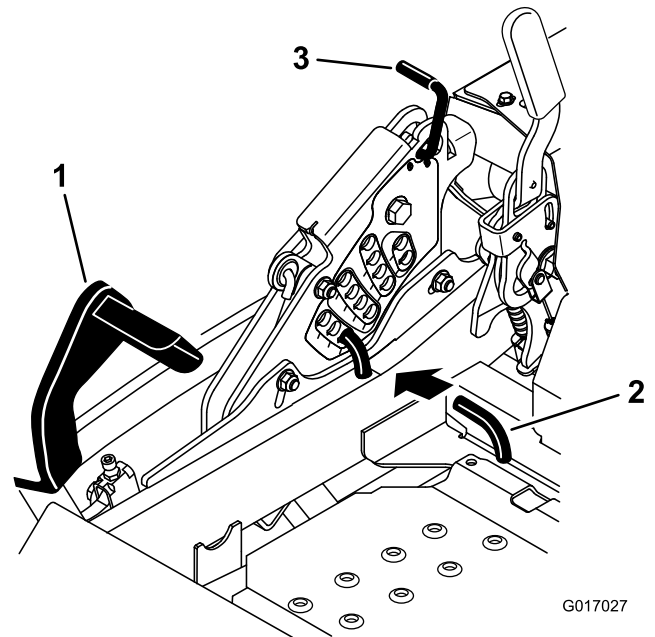

Figure 84
5. Push the deck lift pedal all the way forward and the deck will latch at the 14 cm (5 1/2 inch) transport position (Figure 84).